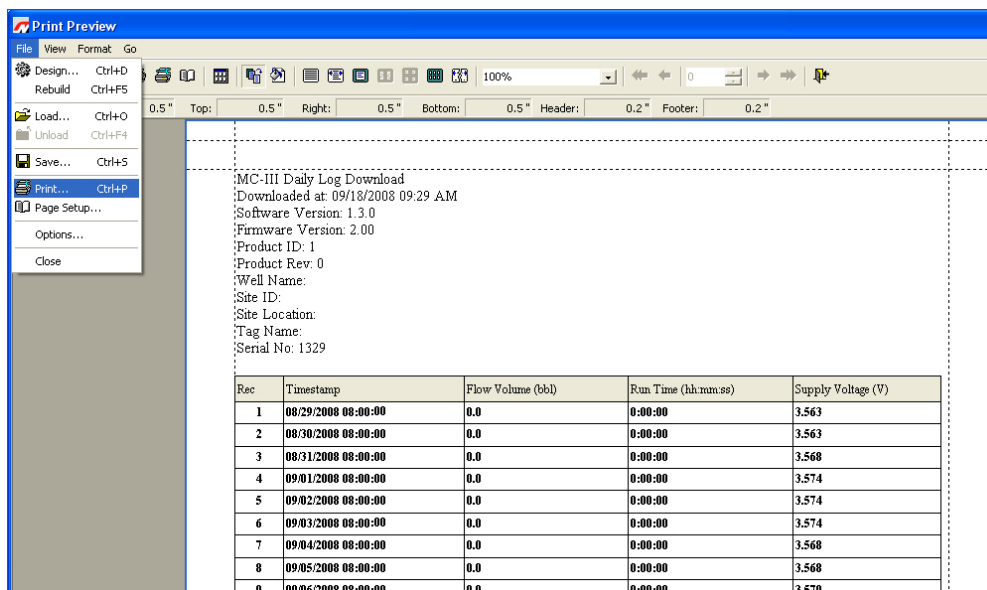
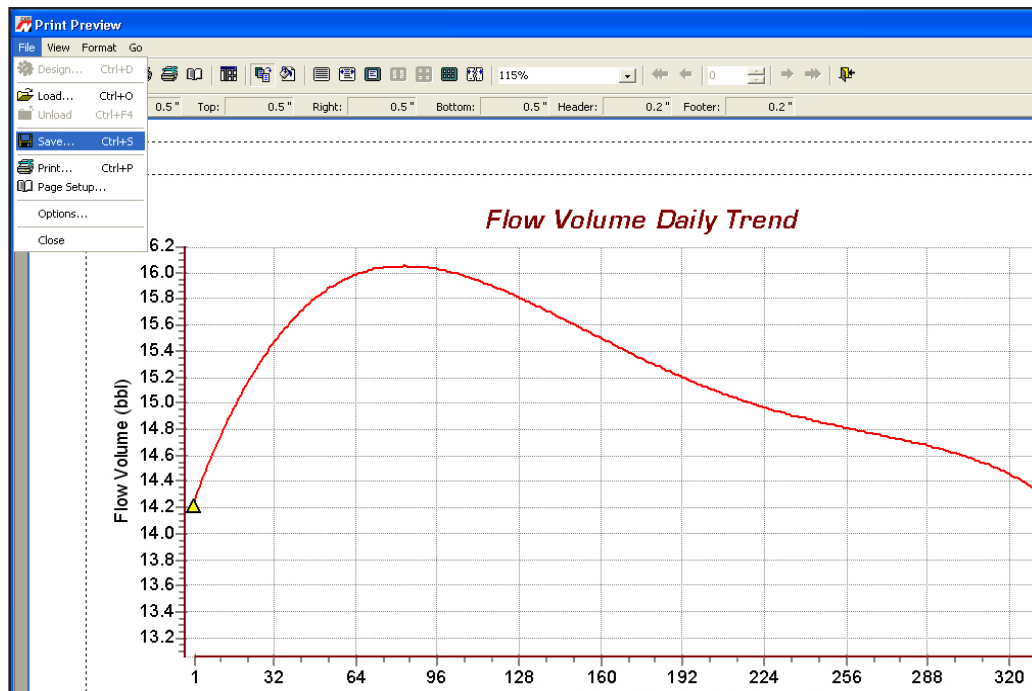
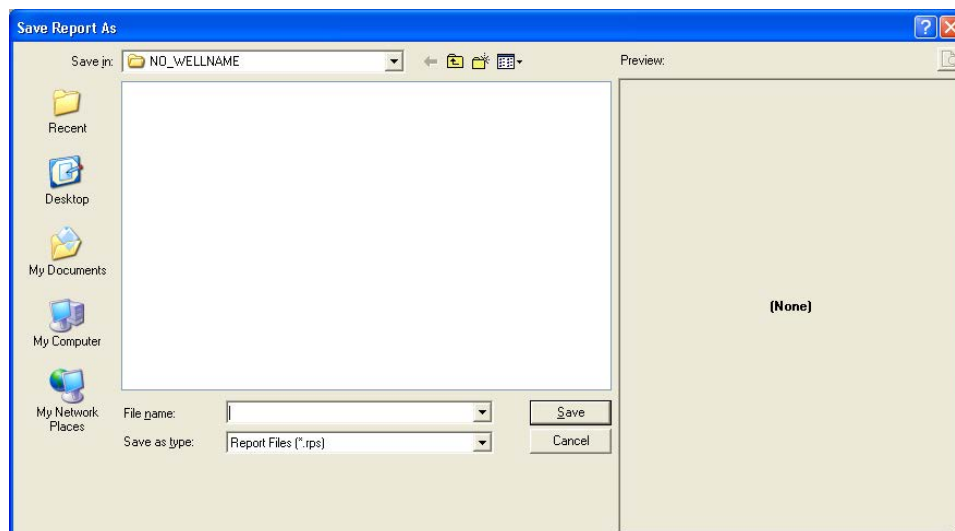

Figure 5.7—Print preview, tabular view
Figure 5.8—Print preview, trend view
Figure 5.9—Save Report As screen
A flow log can be printed and/or saved as a table (Figure 5.7) or a trend chart (Figure 5.8, page 81).
To print the report, select File>Print from the task bar (Figure 5.7).
1. Select File>Save from the task bar (Figure 5.8). A “Save Report As” window will open (Figure 5.9).